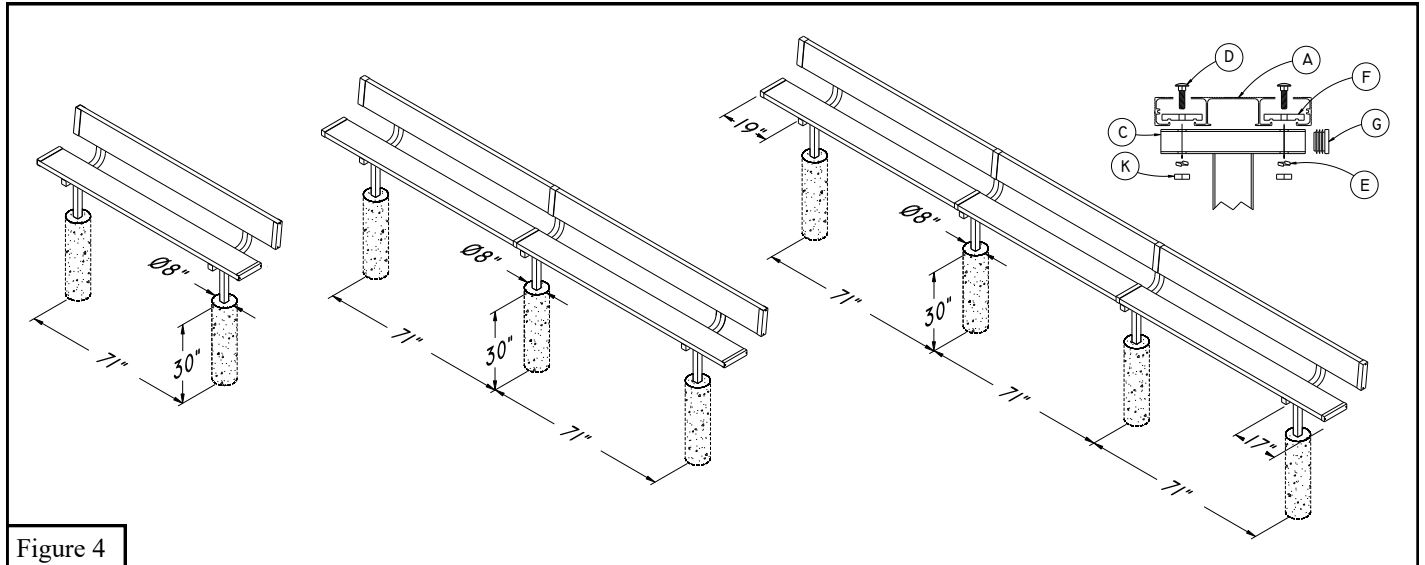

Figure 4
- Attach *Leg Assembly* (C) to the seat plank assemblies from above using  $3/8'' \times 3''$  *Carriage Bolts* (D),  $3/8''$  *Lock Washers* (E),  $3/8''$  *Hex Nuts* (K) and *Bench Clamps* (F). Use *Seat Connector Tubes* (L) on the center legs in place of *Bench Clamps* (F). Legs should be spaced 71'' center to center with equal plank lengths extending beyond the legs on 7 1/2' models. On 15' and 21' models the planks will extend beyond the legs more on one end than the other due to the plank connection hardware in the center. See Figure 4.
- Insert *Plastic Tube Plugs* (G) into *Leg Assemblies* (C). See Figure 4.
- Locate and dig 8'' diameter holes 30'' deep and 71'' apart from center to center. See Figure 4.
The center of the holes should be a minimum of 18'' from any wall, fence, or permanent structure. See Figure 4.